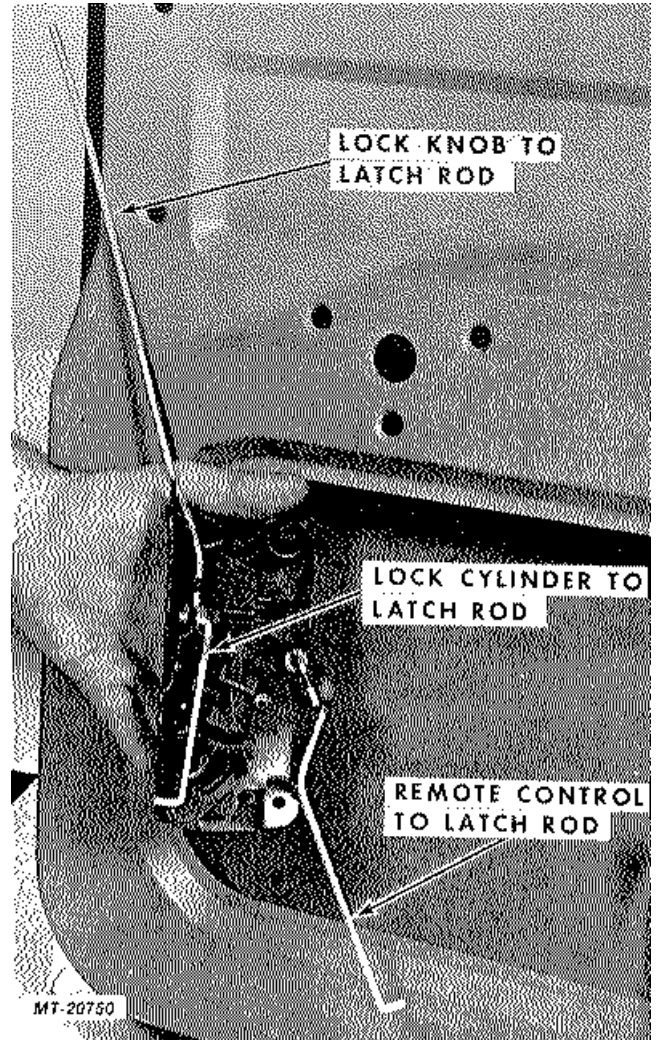

Fig. 22 Removing Latch Assembly
5. Remove five socket head screws and detach door latch assembly from inside of door frame (Fig. 22). Latch jaws should be closed.